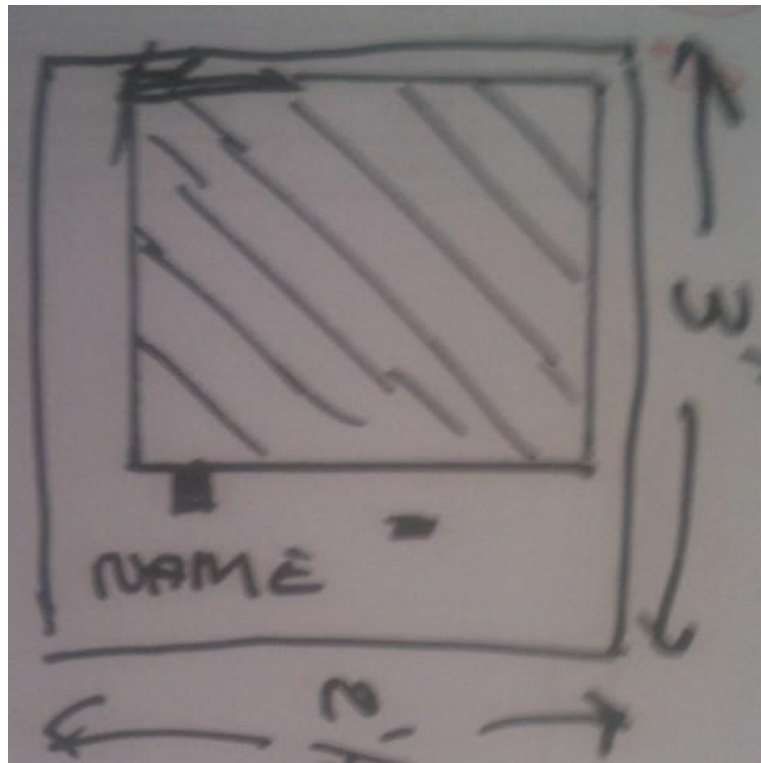

Figure 58: Very rough drawing of footprint of solar cell.
- Mount both solar cells in parallel Make one copper pad 2" by 2" (Figure 58, Figure 59).